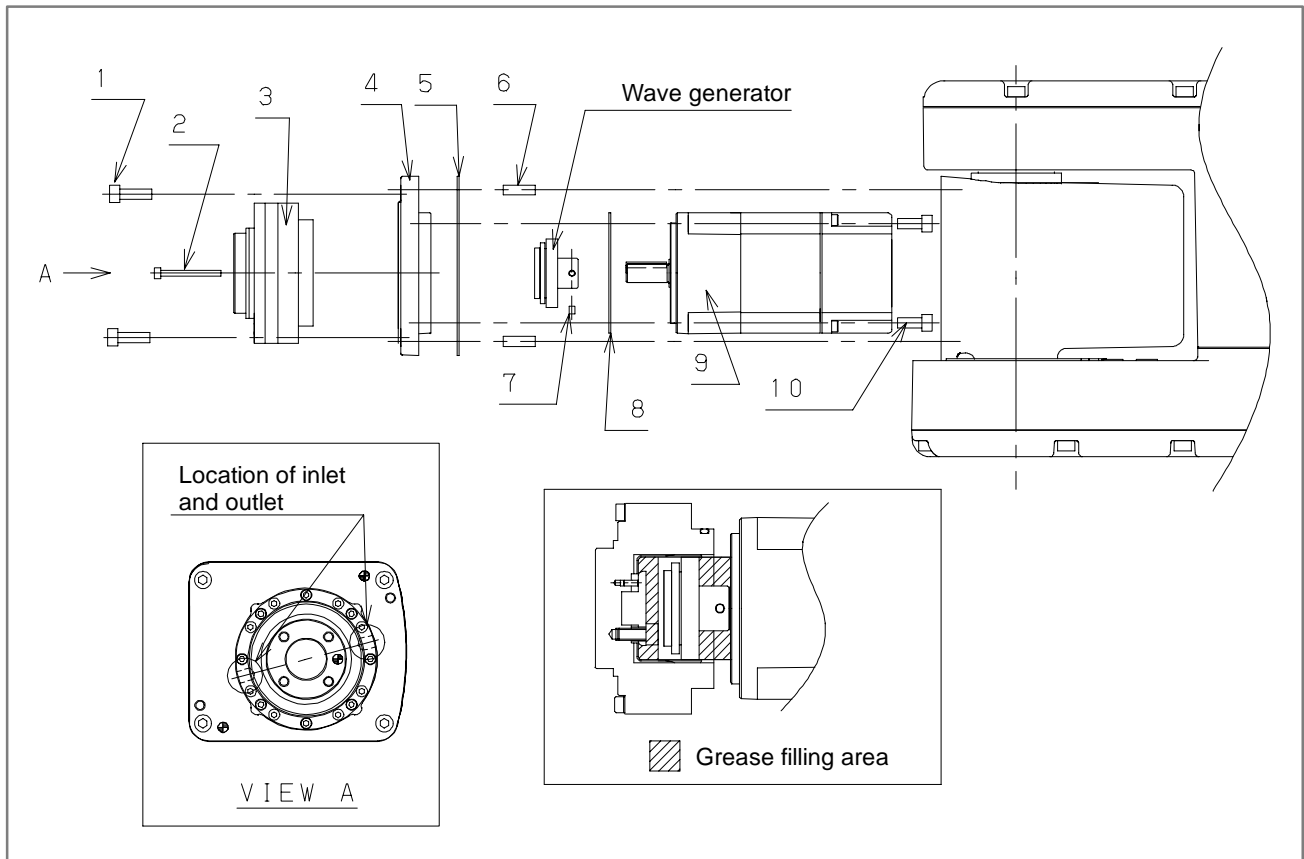

Fig.6.11 Replacing J5-axis reducer
- 1 Remove bolt (1), then remove pin (6), packing (8), and adapter (4).
- 2 Detach the connector attached to motor (9).
- 3 Remove bolt (10), then remove packing (8) and motor (9).
- 4 Remove setscrew (7), then remove the wave generator.
- 5 Remove bolt (2), then remove J5 reducer (3).
- 6 Using a new reducer and packing, assemble the J5-axis reducer by reversing the procedure above. When assembling the J5-axis reducer, feed grease sufficiently to the reducer according to Fig. 6.11.
The reducer has a mounting phase (grease input and outlet positions). So, when assembling the reducer, ensure a match with the mounting phase shown in Fig. 6.11.